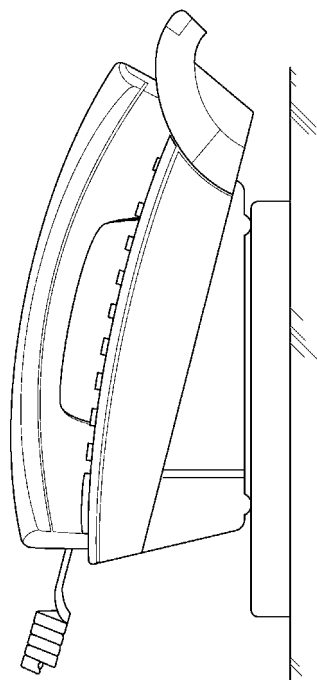

Figure 6-24: Installed Wall Mount Unit
10. When properly installed, the wall-mounted Multiline Terminal looks similar to the one shown in *Figure 6-24: Installed Wall Mount Unit*.